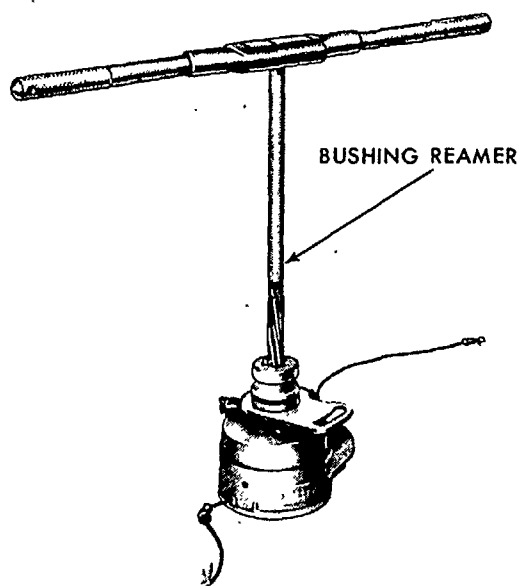

Figure 68
2. Ream the bushing to the limits specified, page 69, Figure 68.